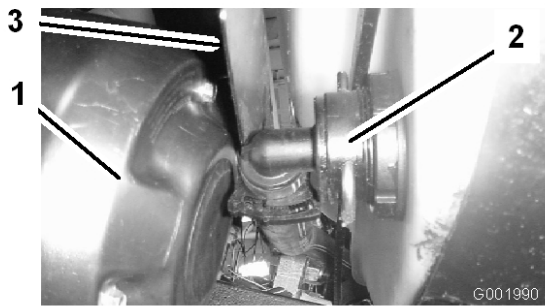

Figure 52
3. Disconnect the hose located on the lower-front face of the tank (Figure 52).
Note: You may need to push the heat shield (Figure 52) back as you remove the cover.
7. Connect the hose on the front of the tank (Figure 52).